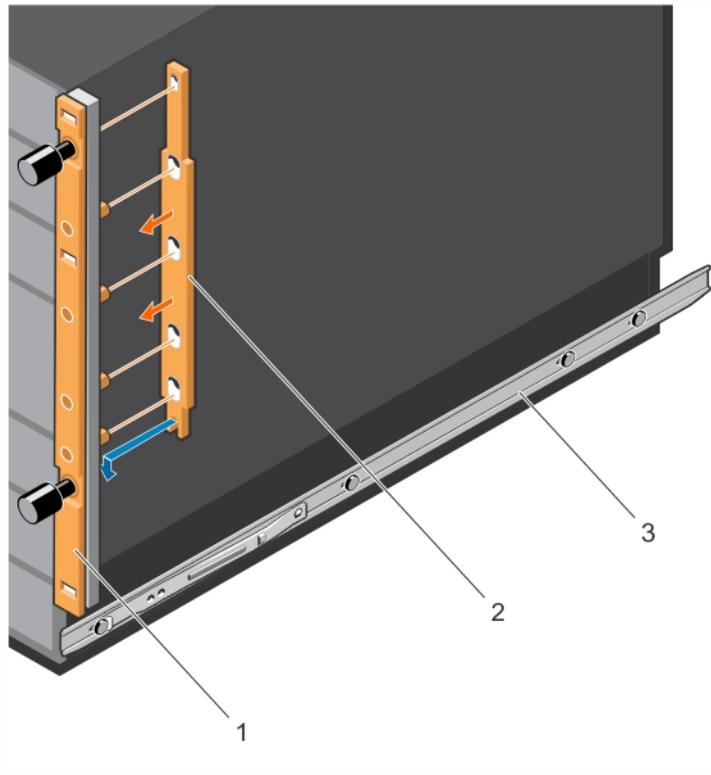

Figure 13. Attaching Spacers on the Chassis Flanges
Place each spacer (item 2 in Figure 13) over the four pins at the back of each chassis flange. Then slide each spacer down so that it locks into place and is flush with the flange.